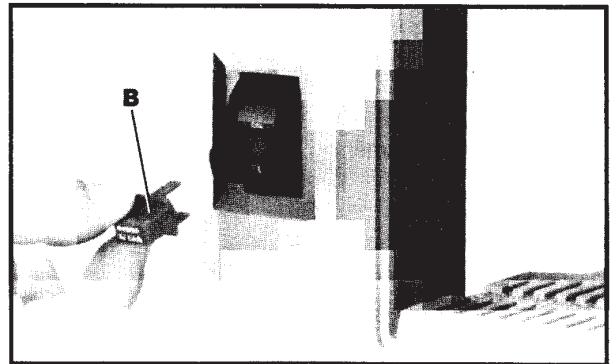

Fig. 14
We suggest that when the saw is not in use, the switch be locked in the "OFF" position. This can be done by grasping the switch toggle (B) Fig. 14, and pulling it out of the switch, as shown. With the switch toggle (B) removed, the switch will not operate. However, should the switch toggle be removed while the machine is running, the switch can be turned "OFF" once, but cannot be restarted without inserting the switch toggle (B).